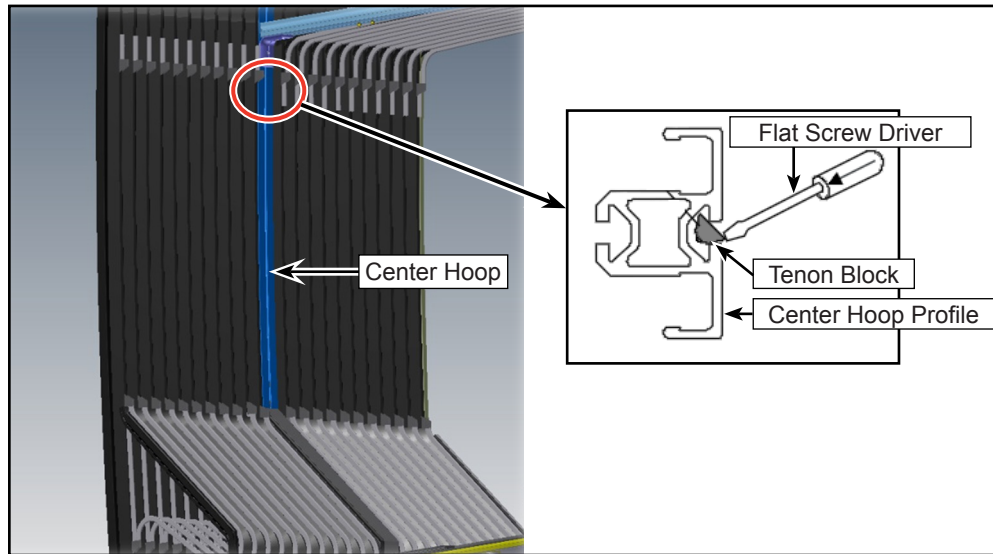

Figure 5 - Installation of Tenon Block
- 1.6. Install the new tenon block into the center hoop profile (right below the horizontal guiding profile) with a flat screw driver as shown (see Figure 5).